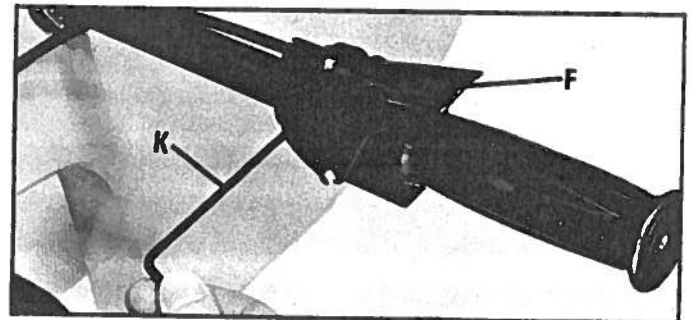

Fig. 5
6. Position throttle control (F) as shown in Fig. 5, and tighten set screw using allen wrench (K) supplied (throttle housing may crack if set screw is overtightened).